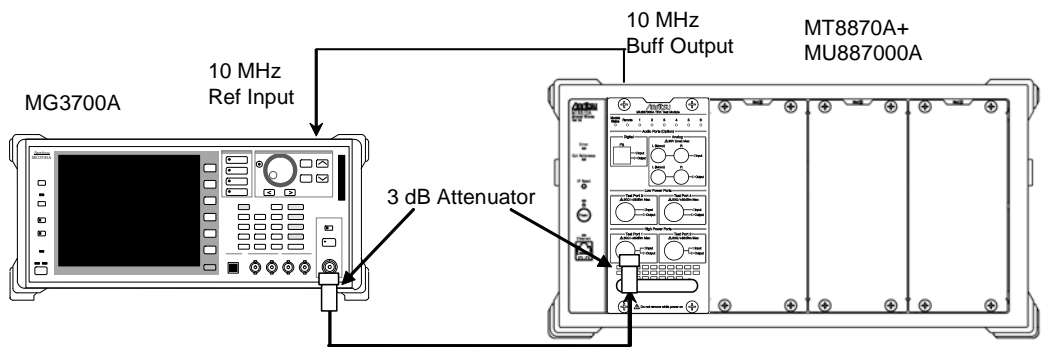

Figure 6.3.8-1 Setup for Measuring Adjacent Channel Leakage Power Ratio
1. Setup the instruments as shown in Figure 6.3.8-1.